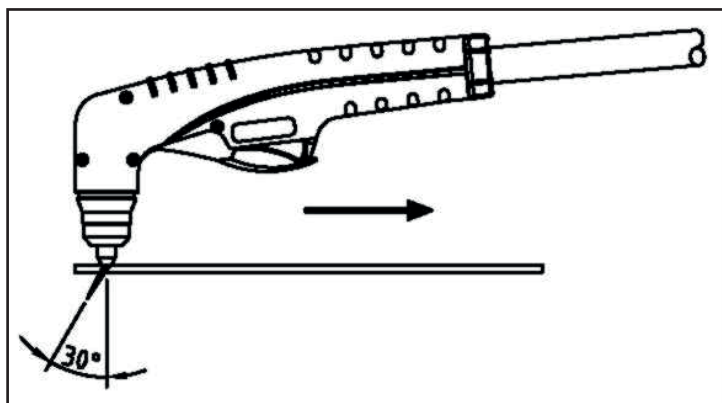

Figure 16
- Once on, the main arc remains on as long as the control switch is held down, unless the torch is withdrawn from the work or torch motion is too slow. Keep moving while cutting. Cut at a steady speed without pausing. Maintain the cutting speed so that the arc lag is about 30° behind the travel direction. Fig. 16. If the cutting arc is interrupted, and the torch trigger is still pressed, the pilot arc comes back on automatically for 3 seconds.